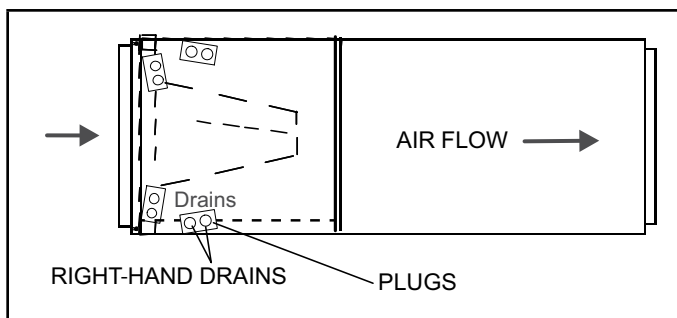

Figure 5. Right-Hand Discharge Configuration
- 5 - The horizontal configuration is shown in Figure 5.